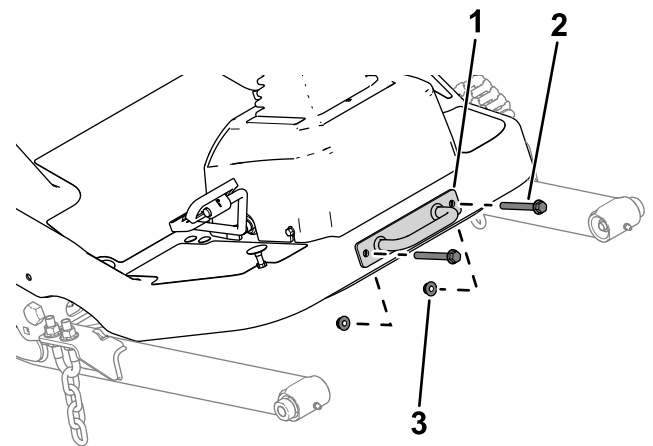

Figure 11
1. Remove the tie-down bracket from the platform (Figure 11).